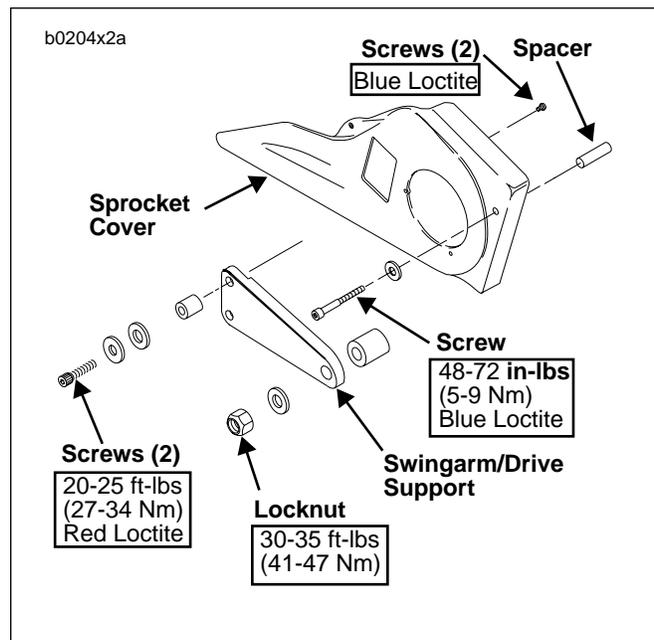

Figure 1. Sprocket Cover
5. See Figure 1. On the right side of the motorcycle, remove the front sprocket cover assembly (and remove fairing lower hardware on S3T models). See appropriate service manual, Section 2 for procedure.
6. See Figure 1. Remove two screws that attach sprocket cover to the backside of the swingarm/drive support. Retain screws. Discard sprocket cover.
18. See Figure 1. Apply LOCTITE THREADLOCKER 243 (Blue) to threads of two sprocket cover to swingarm/drive support screws and install new sprocket cover to swingarm/drive support.
19. See Figure 1. Install **new** sprocket cover assembly with original hardware.
17. See Figure 1. On the right side of the motorcycle, remove the front sprocket cover assembly. See appropriate service manual, Section 2 for procedure.
18. See Figure 1. Remove two screws that attach sprocket cover to the backside of the swingarm/drive support. Retain screws. Discard sprocket cover.
1. See Figure 1. Apply LOCTITE THREADLOCKER 243 (Blue) to threads of two sprocket cover to swingarm/drive support screws and install new sprocket cover to swingarm/drive support.
2. See Figure 1. Install **new** sprocket cover assembly with original hardware.